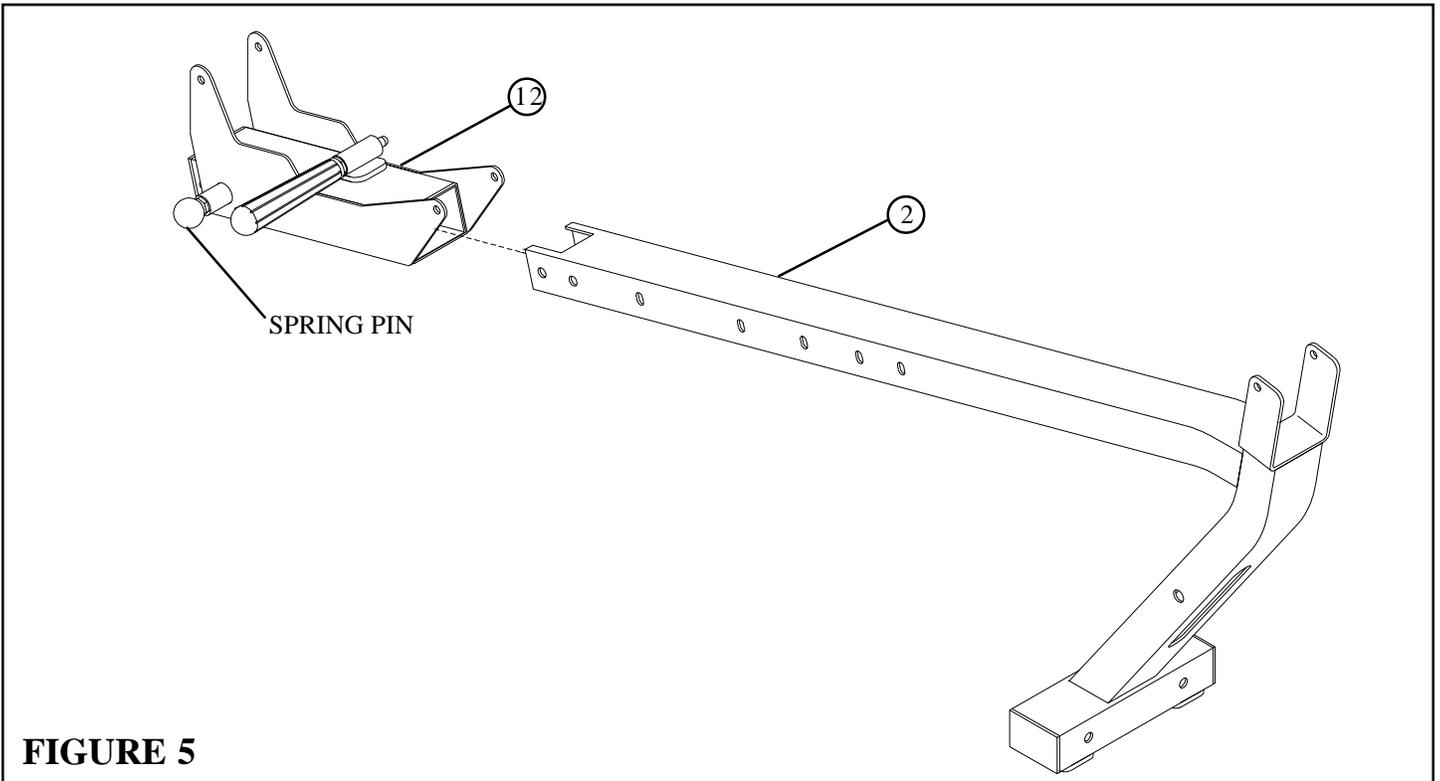

**FIGURE 4**
- **LOOSELY** assemble the UPRIGHT SUPPORT (6) to the BASE (1) and REAR UPRIGHT (5) using eight RH CAPS (78), two 3/8 X 3-1/2" BOLTS (63), two 3/8 X 4" BOLTS (53), eight 3/8" SAE WASHERS (75), eight 3/8" RH WASHERS (76) and four 3/8" LOW HEIGHT LOCK NUTS (73) as shown in FIGURE 4.